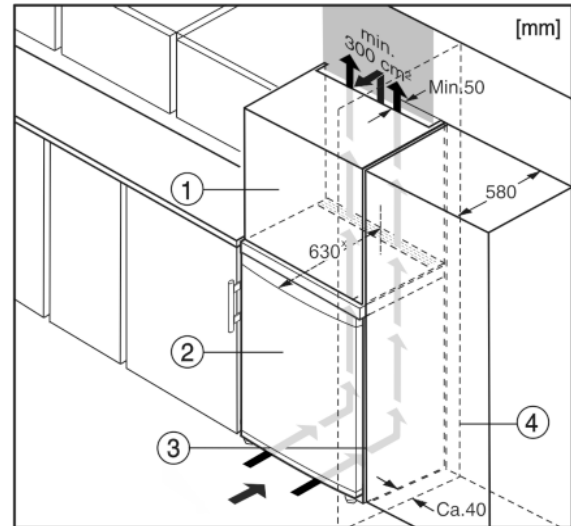

Fig. 6
The appliance can be built into kitchen units. A top cupboard Fig. 6 (2) can be added above the appliance in order to bring the appliance Fig. 6 (1) up to the height of the fitted kitchen units.
When installing with kitchen units (max. depth 580 mm), the appliance can be positioned directly next to the kitchen cabinet Fig. 6 (3). The appliance will project by 34 mm \* at the sides and 50 mm \* in the centre of the appliance in relation to the kitchen cabinet front.
If the appliance is installed with the hinges next to a wall Fig. 6 (4), the distance between appliance and wall has to be at least 40 mm. This corresponds to the projection of the handle when the door is open.\*